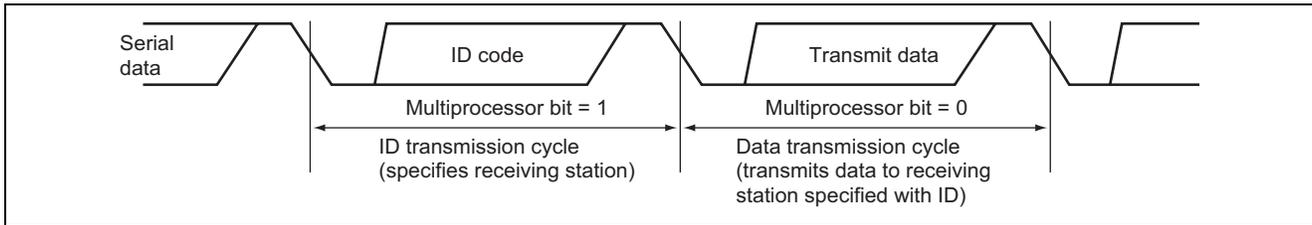

Figure 2 Serial Data with Multiprocessor Bit
- Figure 2 shows serial data with the multiprocessor bit and table 1 shows multiprocessor formats.